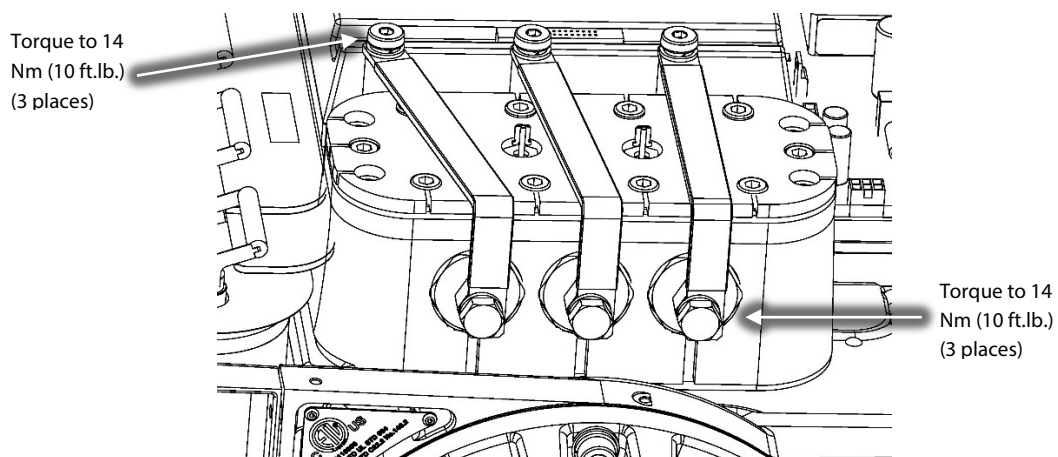

Figure 29 – Motor Bus Bar Installation
19. Refer to Figure 29 (Motor Bus Bar Installation).